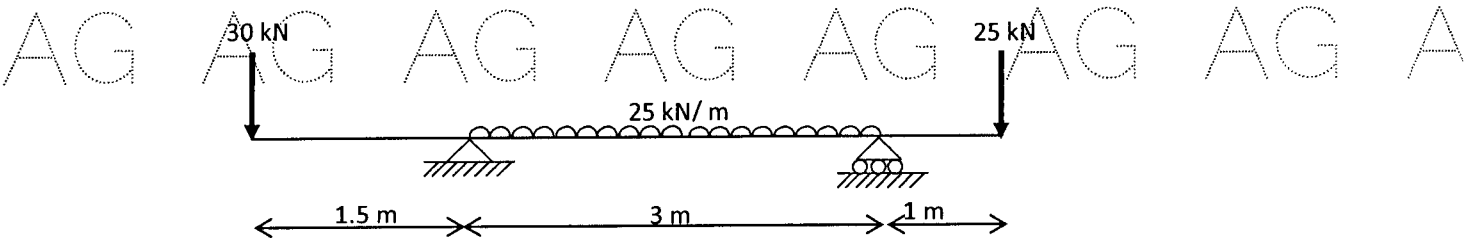

Figure 2
4. Draw the shear force and bending moment diagrams for a beam supported and loaded as shown in Figure 2. [10]